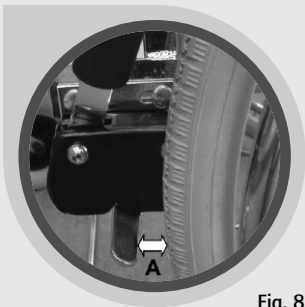

Fig. 8
- To set the brake just press the brake lever forward until it locks (see Fig. 8).